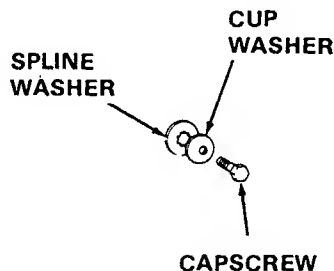

Figure 9. Blade Hardware
1. Reinstall the blade(s) with the tabs pointing upward. Install the spline washer, cup washer, and capscrew (see figure 9). Be sure the splines on the spline washer are engaged with the shaft splines. Be sure cup washer is installed with the concave side up.